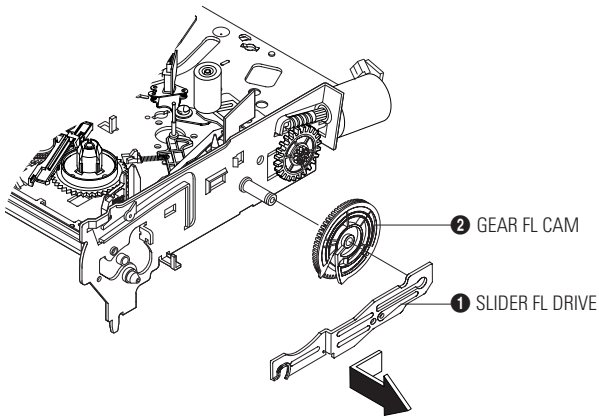

Fig. 3-6 Slider FL Drive Removal
- 1) Pull the Slider FL Drive ❶ to the front direction.
- 2) Remove the Slider FL Drive ❶ in the direction of arrow. (Refer to Fig. 3-6)
- 3) Remove the Gear FL cam ❷.
**Note :** When reinstalling be sure to reassemble Slider FL drive ❶ after you insert the Boss of Lever FL ARM-R in Groove of Slider FL drive ❶.
**Assembly :** Align the Gear FL Cam ❶ with the Gear worm wheel Post as shown drawing. (Refer to Timing point)